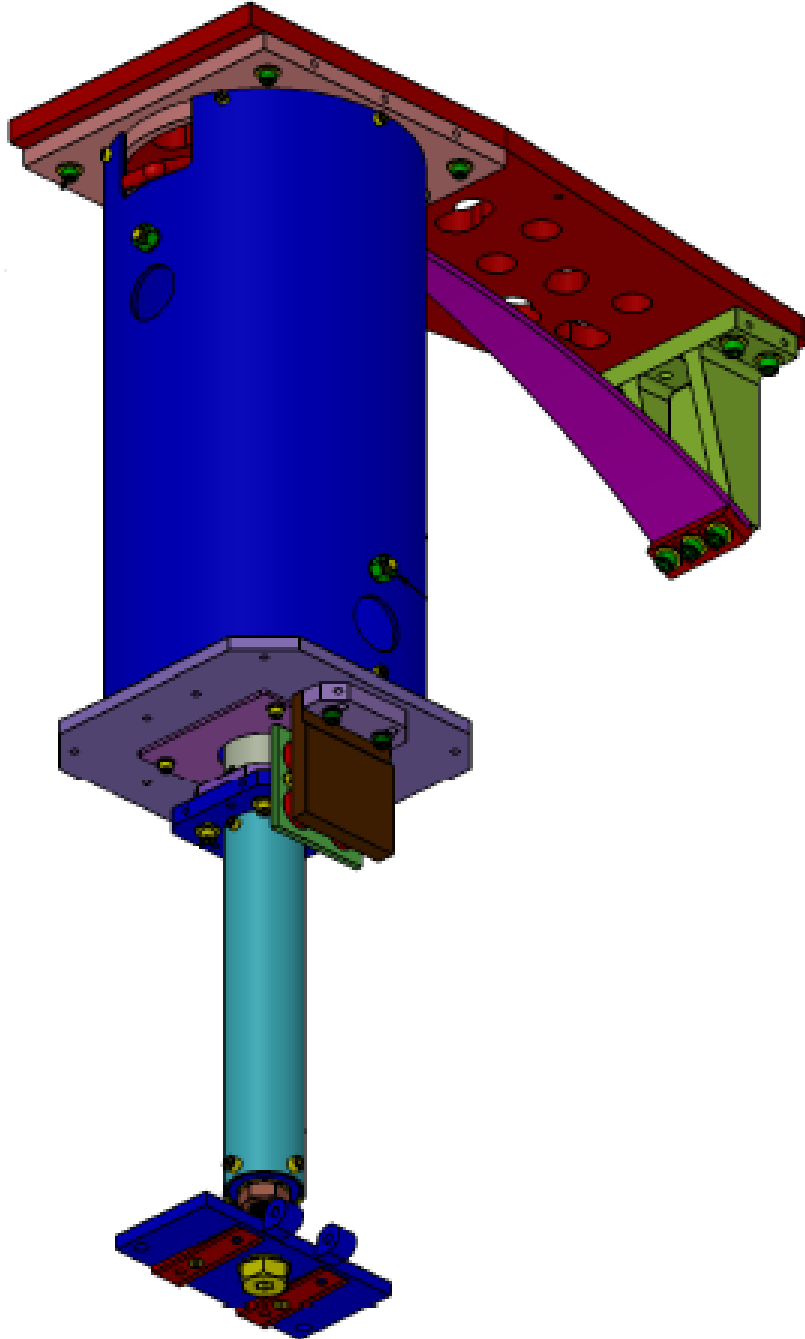

Figure 16: Suspension Assembly
5. **Insert D1002581 – SLC SUSPENSION ROD SUPPORT into D1002612 – SLC UPPER TUBE on end closest to view holes, see Figure 16. Align with fastener holes. Parts may not slide together with ease.**
6. **Insert D1002610 – SLC TUBE UP CONNECTOR PLATE into D1002612 – SLC UPPER TUBE on end furthest from view holes, see Figure 16: Baffle Tube Up Assembly. Align with fastener holes.**